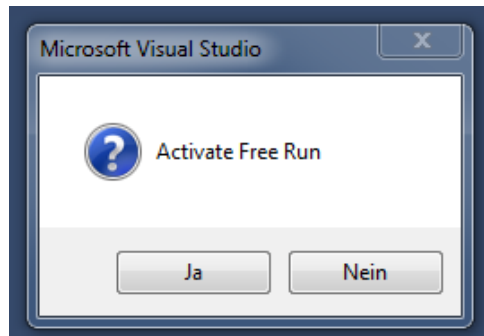
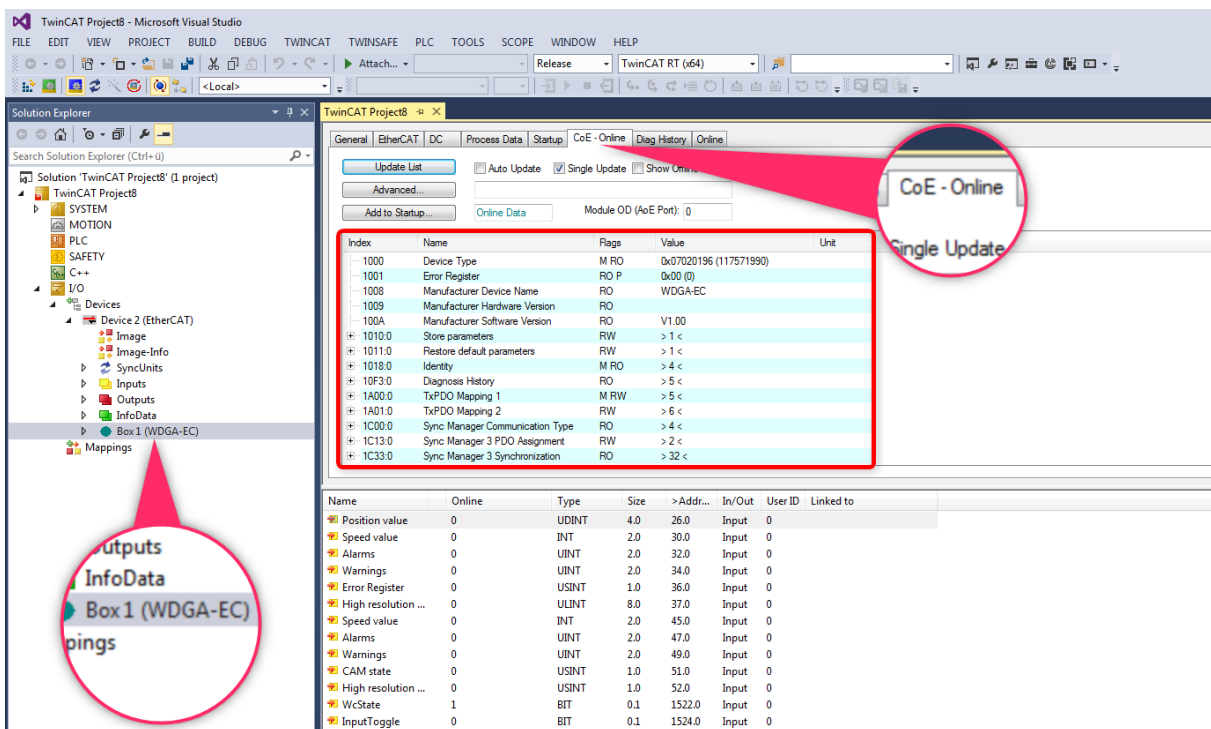

Figure 6.5: TwinCAT – Activate Free Run
Figure 6.6: TwinCAT - Scan complete
- Once the scan is complete, confirm the following window with "Yes". (see Figure 6.5) The encoder appears in the tree structure and you can access the process data via the CoE tab. (see Figure 6.6)